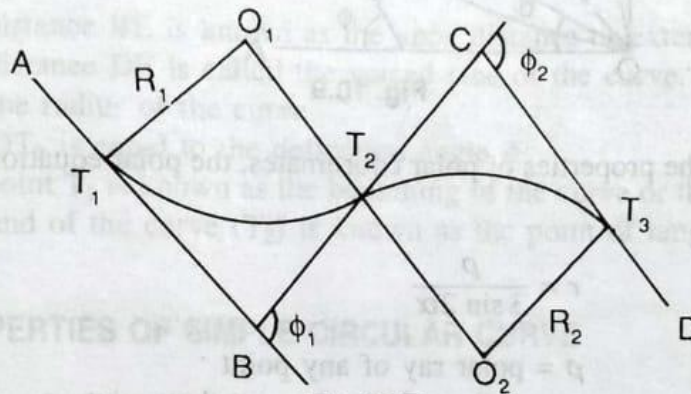

Fig. 10.7
3. **Reverse curve** A reverse curve consists of two arc bending in opposite directions. Their centres lie on opposite sides of the curve. Their radii may be either equal or different, and they have one common tangent (Fig. 10.7).